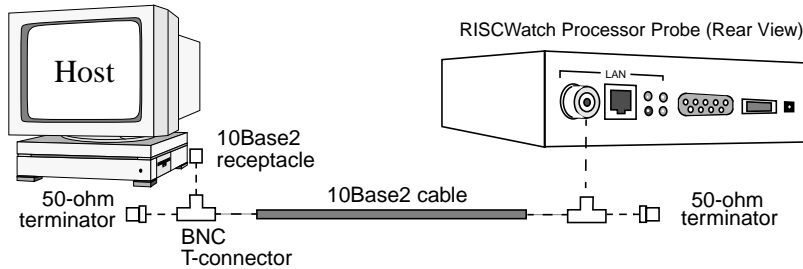

Figure 4-4. 10Base2 Ethernet Point-to-Point Connection
- b. Attach the non-keyed side of the 2" cable to the 16 pin connector (See Figure 4-4).
- a. For customers with no current ethernet network, a point-to-point connection should be configured. A 10Base2 connection between a host machine and the RISCWatch processor probe requires a pair of BNC T-connectors and 50-ohm terminators, plus a short length of 10Base2 ThinLAN cable, as shown in Figure 4-4.
- c. For 10BaseT Ethernet, the connection can be made in two ways. If the connection is to be used exclusively between the host and the Evaluation Board (a 10BaseT point-to-point connection), a crossover cable must be used to connect the two nodes (see Appendix A for a diagram of the wiring for a 10BaseT crossover cable). Figure 4-4 shows a point-to-point ethernet connection using a 10BaseT crossover cable:
- d. Figure 4-4 shows a 10BaseT Ethernet connection using a hub: